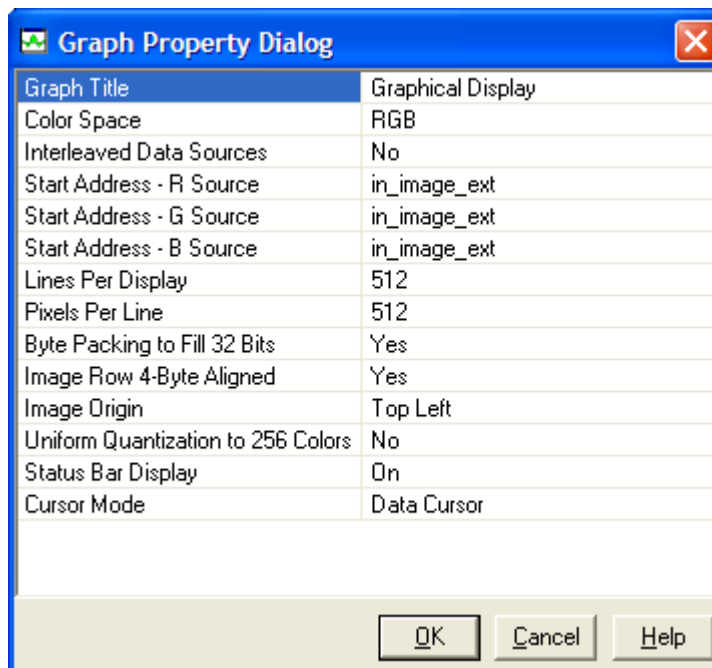

Figure 7. Graph Property Dialog Window
3. From the menu, select View → Graph → Image. Modify the Dialog as shown in Figure 7 and click OK. This displays the original input image in the Graphical Display window.